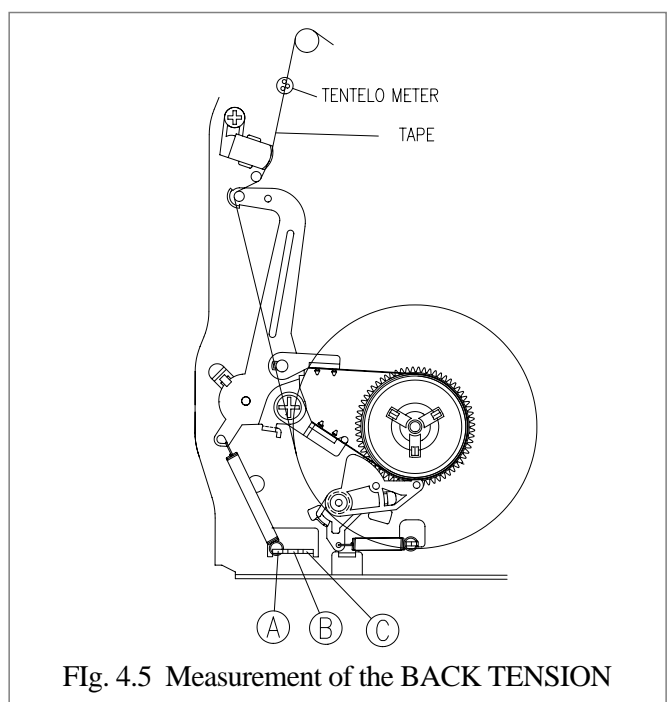

Fig. 4.5 Measurement of the BACK TENSION
4-2. Adjustment and measurement of the BACK TENSION (Fig. 4.5, 4.6)
- c. Measure the BACK TENSION by using the TENVELO METER. (Refer to Fig. 4.5) The result should be within the range of 20g~30g.